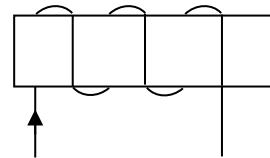
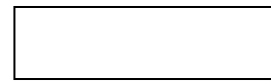

Figure 1
Figure 2
10. For the circuit of Figure 1, determine which end of the electromagnet will be the north pole.
11. For the circuit of Figure 2, draw the windings and mark the current direction required to reverse the coils magnetic polarity in Fig 1.